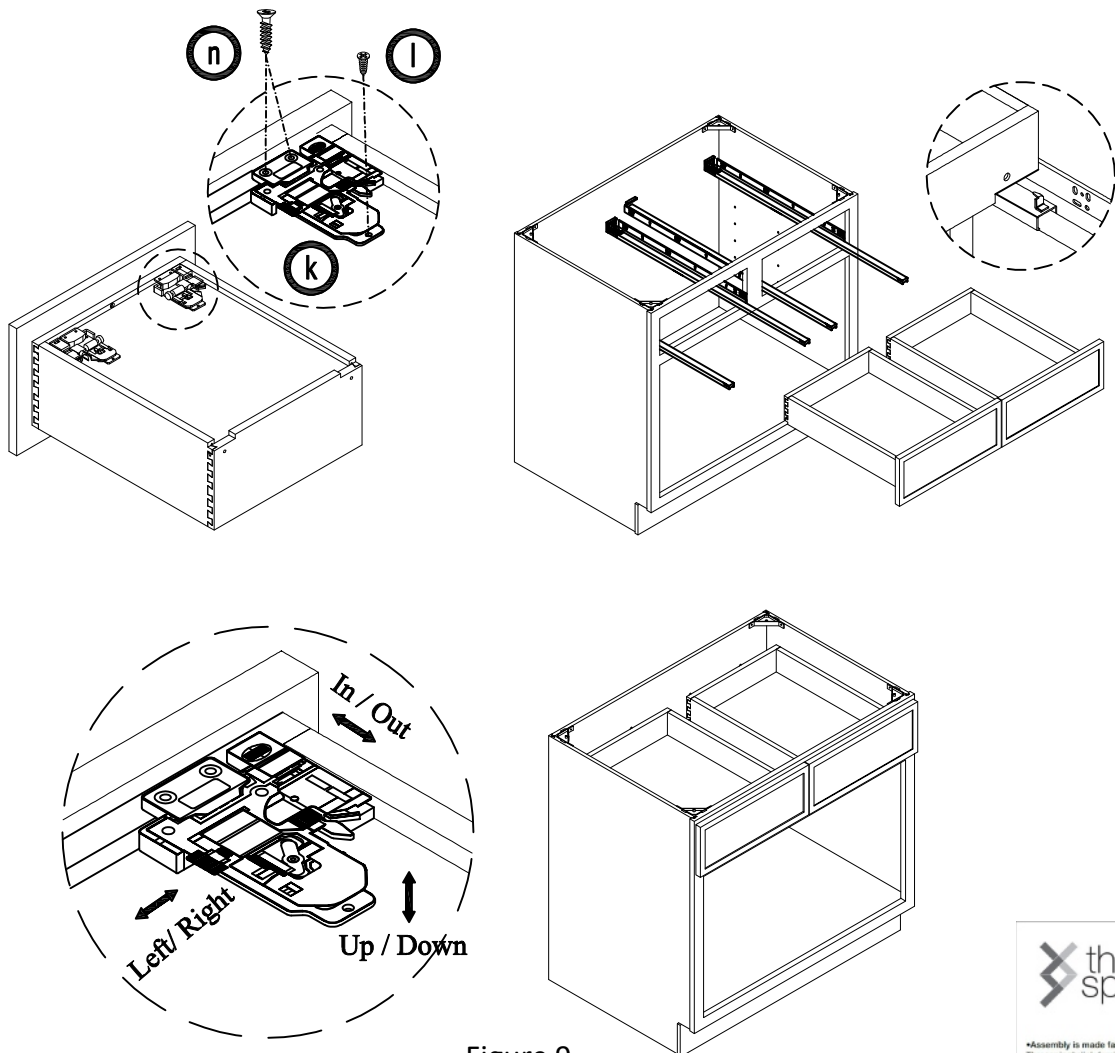

Figure 9
9. Assemble 3D locking device with 3 screws 6/15", to move out the slide and put drawer to click into the hook of slide with the hole in back side of drawer back . 3D locking device can just the drawer up/down, Left/Right or in/out .(Figure 9)